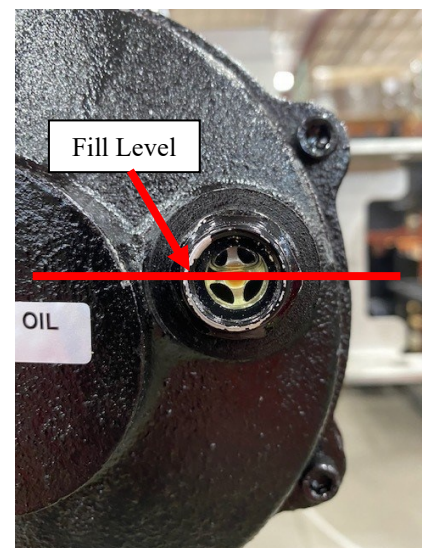

Figure 4
6. Fill the gearbox with the specified oil until the oil level appears in the center of the sight window, approximately .8 L. (See Figure 4)